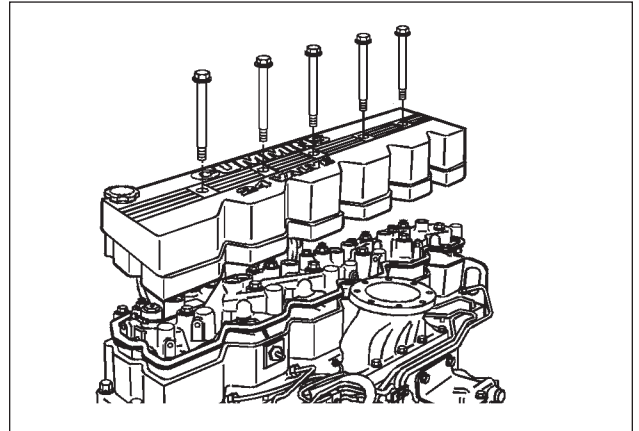

FIG. 14
1. Install the new gasket and cover on the spacer. Tighten the cover capscrews starting from the center and working out to 12 N•m [9 ft-lb]. (See Fig. 14)